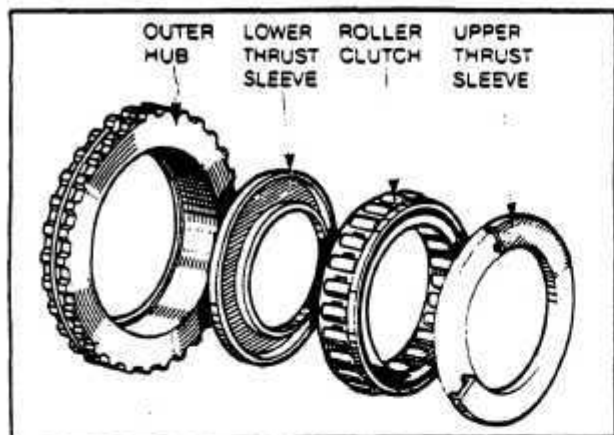

Fig. 53 ROLLER CLUTCH DISASSEMBLED
4. Remove the upper thrust sleeve, roller clutch, and lower thrust sleeve from the outer hub. *Fig. 53*
1. Fit the lower thrust sleeve in the outer hub. *Fig. 53*
2. Lubricate the roller clutch with transmission fluid and install in the hub with the shoulder on the clutch to the outside of the outer hub. *Fig. 53*